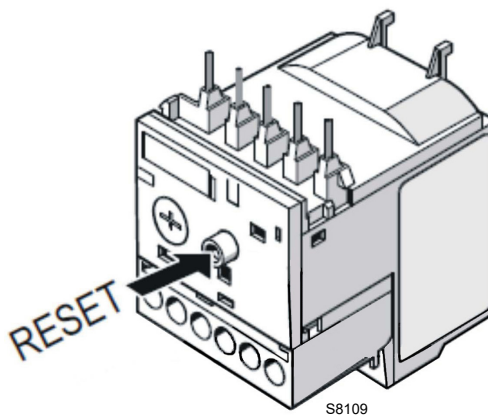

Fig. 31
- To reset, in the case of an intervention of the thermal relay, press the button “RESET” (Fig. 31).